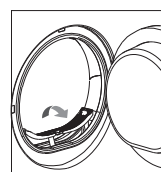

Fig4
- 2.Take out the filter. (Fig4)